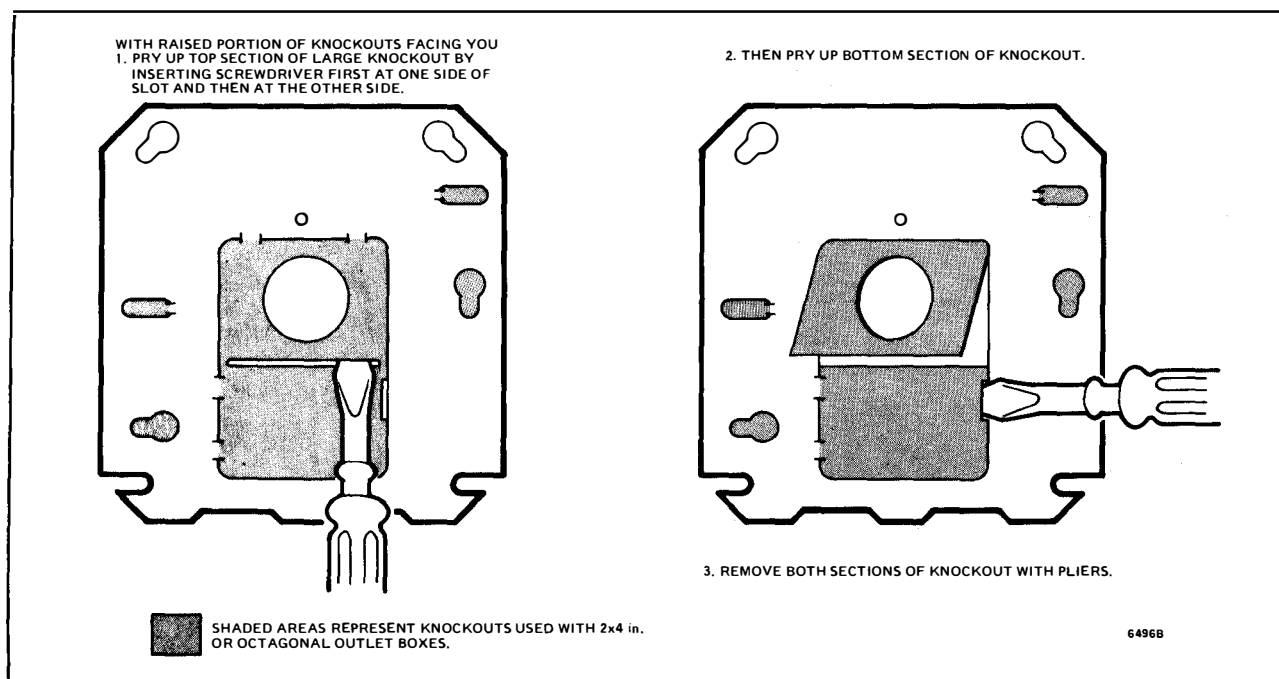

FIG. 20—REMOVING LARGE CENTER KNOCKOUT.
1. Remove large center knockout in mounting plate as illustrated in Fig. 20.